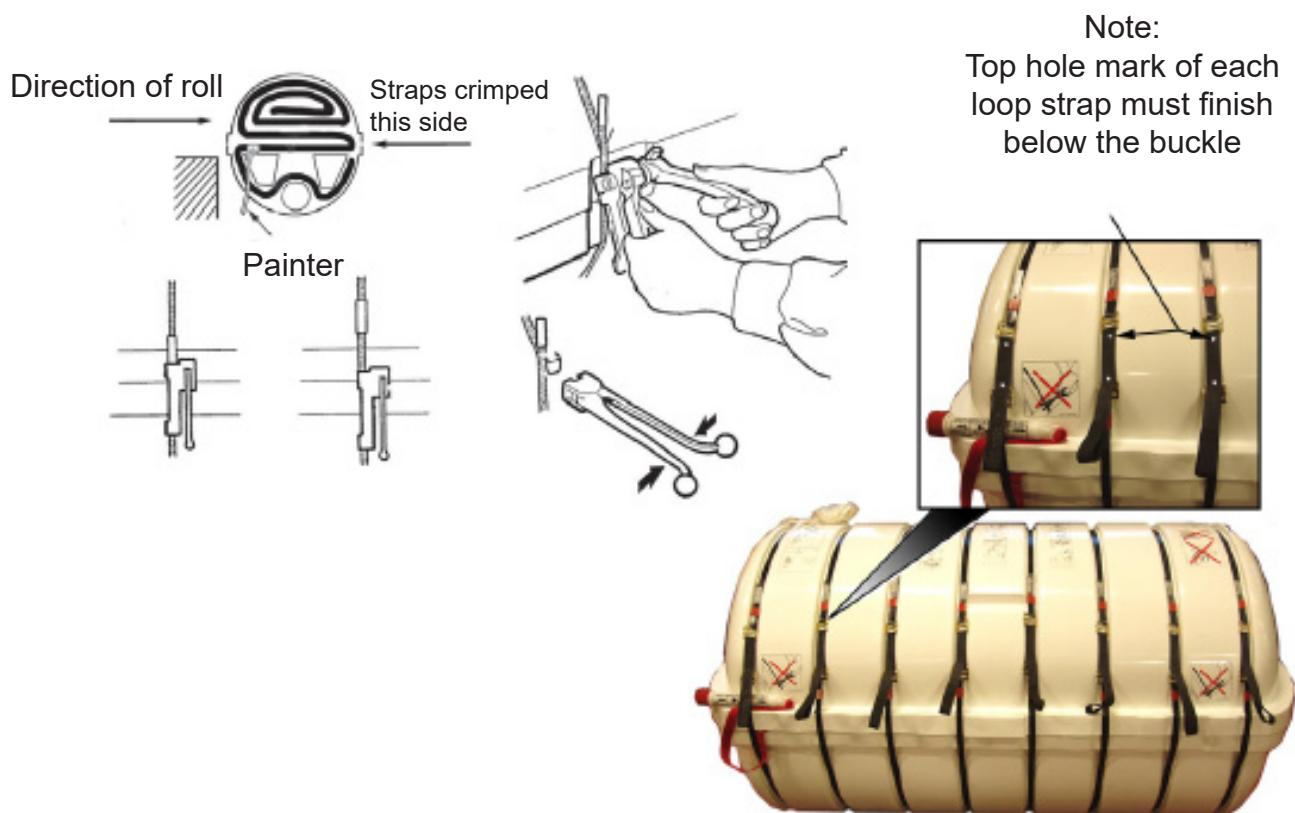

FIGURE A9-17
CAUTION: FOR ALL LIFERAFTS, IT IS ESSENTIAL THAT CRIMPS ARE ATTACHED ON THE OPPOSITE SIDE OF THE CONTAINER TO THE ROLL OF THE LIFERAFT. REFER TO FIGURE A9-17. (I.E. ON A DL LIFERAFT THE CRIMPS ARE ATTACHED ON THE SIDE WHICH HAS THE DAVIT RING CUT-OUT).
Refer to FIGURE A9-17.
2.55.1 Adjust the ends of each strap so that the outer most strap end is facing upwards and is approximately 25 mm (1 in) above the rim of the container. Refer to FIGURE A9-17.
2.55.2 Apply the tensioning tool to each strap at a point half way across the two rims. Operate the handle to tension each strap until the base of the tensioning tool rests in the lower container rim. Secure the strap with a crimp using a crimping tool. Refer to FIGURE A9-17.